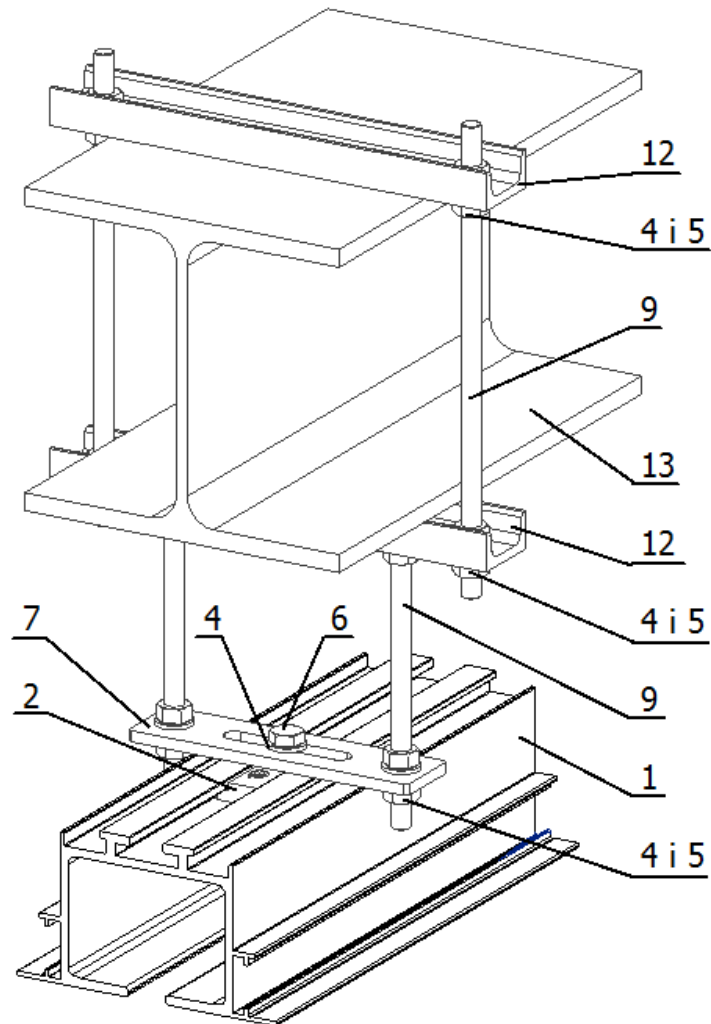

Fig.18. Scheme of track mounting with elements surrounding the I-beam
- on the profile surrounding the I-beam (Fig.18)
Individual types of track fasteners may differ in their components from the standard fasteners used, e.g. instead of a C-profile (12 in Fig.18), a closed profile is used (item 36 in chapter 2)